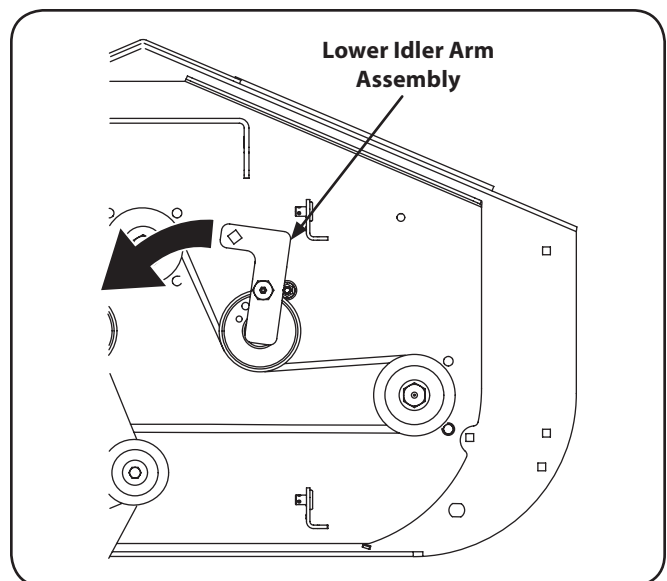

Figure 7-4
3. Using a  $\frac{3}{8}$ " socket breaker bar or socket ratchet insert the drive end into the  $\frac{3}{8}$ " square opening in the lower idler arm assembly and push the idler arm counterclockwise. See Fig. 7-4. While holding the idler arm back, loosen the deck belt from the pulley and slide the belt away from the pulley.